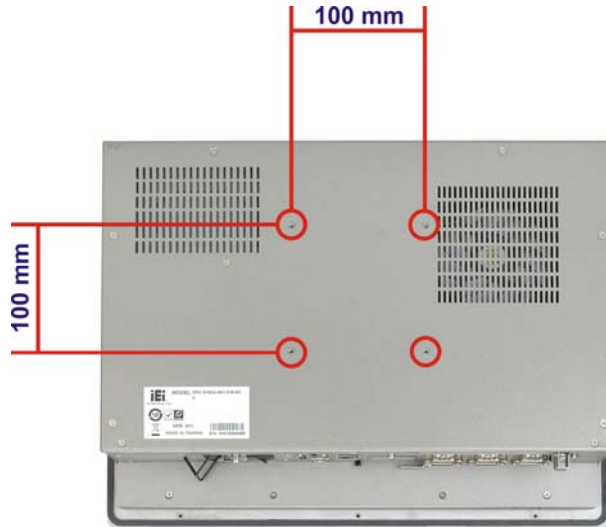

Figure 3-29: Arm Mounting Retention Screw Holes
Step 3: Align the retention screw holes on the mounting arm interface with those in the WIDS-51xA-H61 panel PC. The arm mounting retention screw holes of the WIDS-51xA-H61 panel PC are shown in **Figure 3-29**.